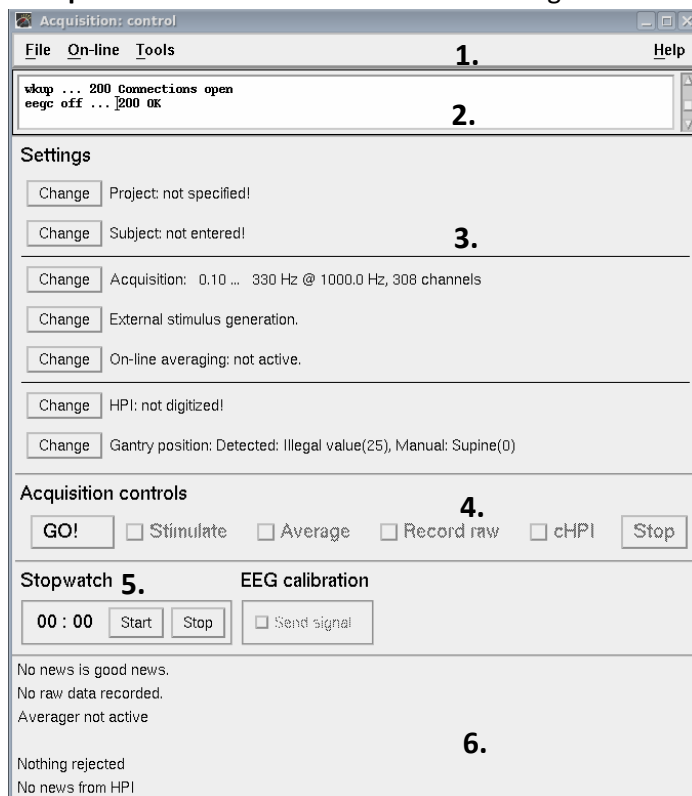

Figure 2: Acquisition control panel. 1. Menubar, 2. Log window, 3. Settings (Setup selections), 4. Acquisition controls, 5. Stopwatch, 6. Status messages.
- **Acquisition: control** interface is shown in Figure 2.